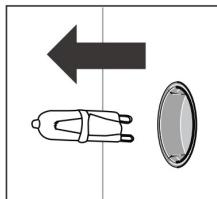

Figure 6
3. Remove the light and replace it with the same type.[Figure 6]